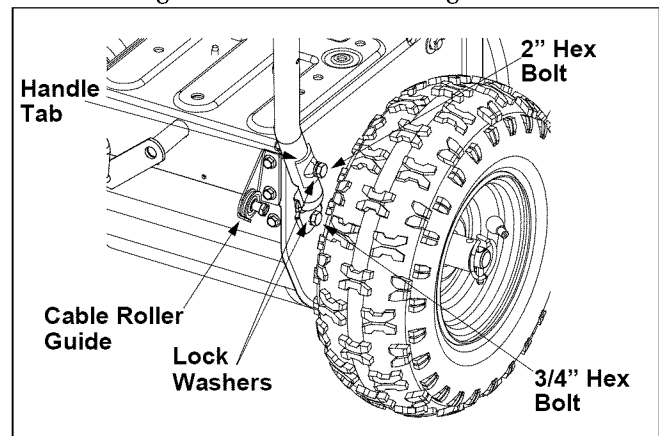

Figure 5
- Make certain all cables are in the grooves of the cable roller guides located in the lower rear of the unit, one on each side. See Figure 5.
- Place right handle in position against the snow thrower so the flat side of the handle is against the snow thrower. Secure bottom hole in handle to snow thrower using 3/4" hex bolt and lock washer. Do not tighten at this time. See Figure 5.
- Place handle tab over the upper hole on the handle so the curve in the handle tab matches the curve of the handle. See Figure 5. Secure to the snow thrower using 2" hex bolt and lock washer; do not tighten at this time. Repeat on the other side. Do not tighten at this time.
- Tighten the four hex bolts used earlier to attach bottom of the handles to the snow thrower frame. See Figure 5.